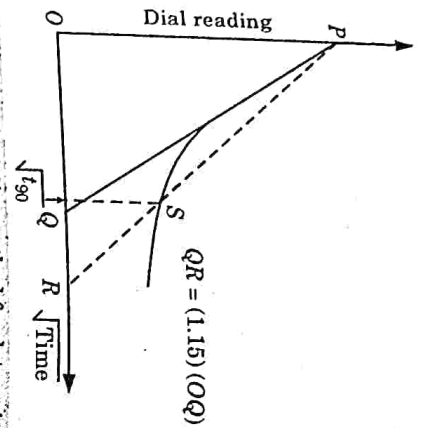

Fig. 3.16.2. Square-root-of-time method for determination of C_v .
1. Plot the dial reading and the corresponding square-root-of-time \sqrt{t} as shown in Fig. 3.16.2.